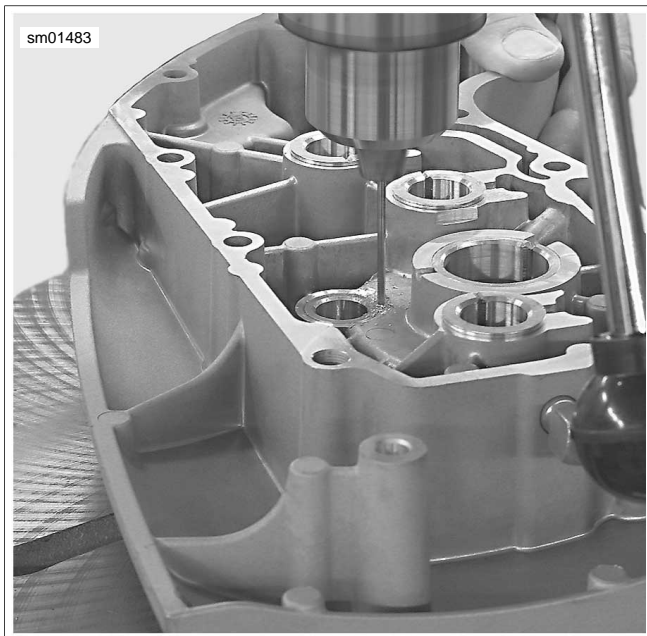

Figure 3-74. Drilling Pinion Bushing Dowel Pin Hole in Gearcase Cover
- a. Center seal/spacer driver (2) over seal, so that the sleeve (smaller O.D.) seats between seal wall and garter spring.
- b. Assemble SPROCKET SHAFT BEARING/SEAL INSTALLATION TOOL (Part No. HD-42579) (1) and SPROCKET SHAFT SEAL/SPACER INSTALLER (Part No. B-45676) onto sprocket shaft.
2. See Figure 3-74. Although the original pinion shaft bushing is not "pinned," the replacement bushing must be secured from possible rotation within the cover bore, by installation of a dowel pin. Drill a No. 31 hole, 0.281 in. (7.14 mm) deep, at top side of boss (side toward top of gearcase cover), centering the drill bit on the cover bore circle (hole is drilled half in bushing O.D. and half in cover bore I.D.).